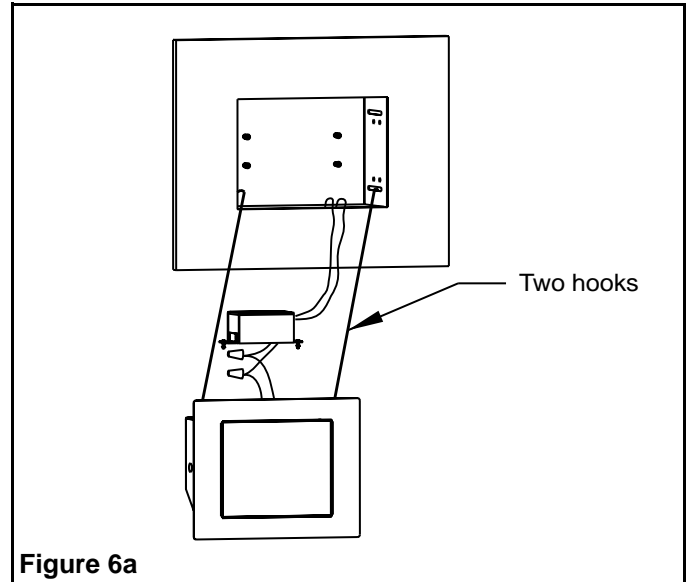

Figure 6a
4. Cap the wire connections and install them in the junction box (see Figure 6a).